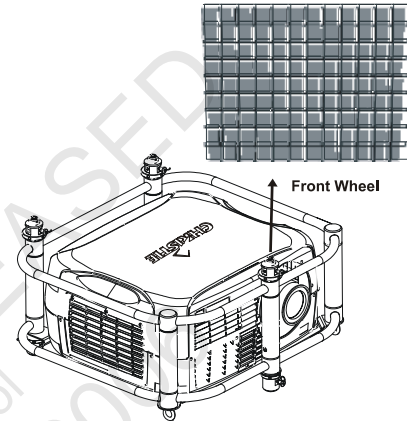

Figure 9. Centerline Alignment
- If centerlines are parallel, but others are not, turn the front stacking mount wheel to bring the centerlines into alignment. Refer to Figure 9.